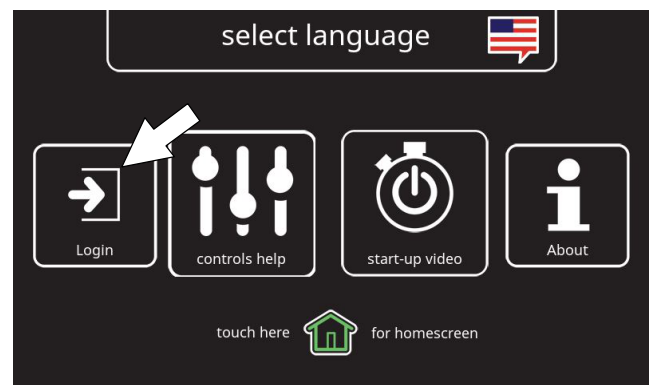

FIG. 164
2. Press the login button (Figure 164).